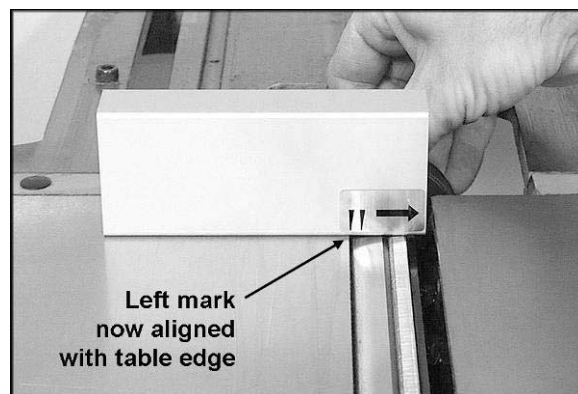

Figure 30 (straight cutterhead)
9. Rotate the cutterhead clockwise (by using the pulley). If table and knives are set correctly, the knife will contact the aluminum gauge and move the gauge until the left mark now lines up with the edge of the outfeed table, as shown in Figure 30.